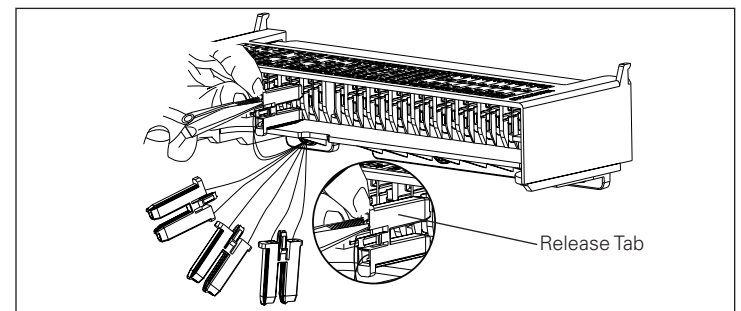

Figure 37. Connector Plug Removal.
- 2 Secondary connections are made by plugging the connector plugs into the appropriate location. A connector plug already connected can be removed by squeezing two release tabs together with small needle nose pliers and pulling out (Figure 37).
Step 5: To remove an accessory plug on a fixed circuit breaker, the appropriate fixed secondary terminal block must first be removed. To remove a fixed secondary terminal block, lift up on the small flexible mounting tab at the top of the fixed terminal block mounting plate, and rotate the terminal block out in the opposite direction shown in Step 4. Once the terminal block is removed, the accessory connector plug can be unplugged from the bottom of the terminal block. Refer to Item 2 and Figure 37 under the heading "General Information" in this section for detailed assistance with the removal.
Step 3: To remove an accessory connector plug on a drawout circuit breaker, unplug it from its secondary plug housing. Refer to Item 2 and Figure 37 under the heading "General Information" in this section for detailed assistance with the removal.